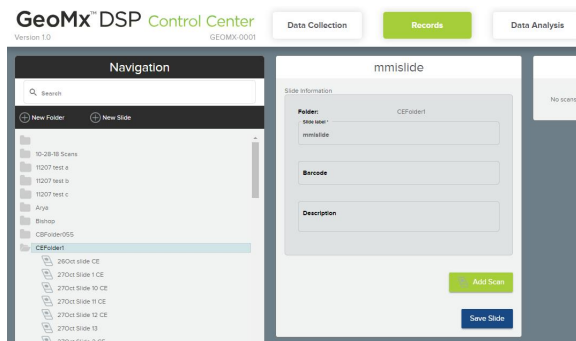

Figure 55: Records button and Navigation window
1. Select the **Records** button in the DSP Control Center (see Figure 55).